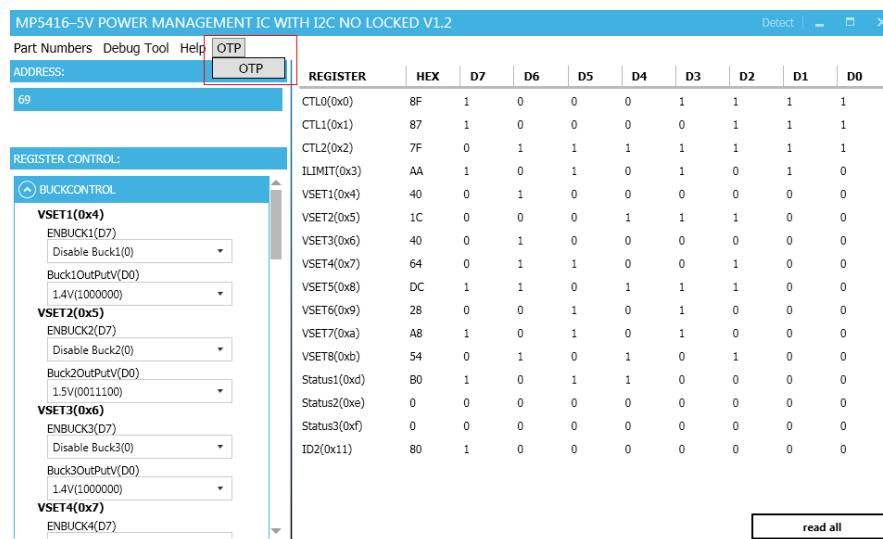

Figure 12: Select OTP, Located in Task Bar
5. Select the OTP option from under GUI (see Figure 12).